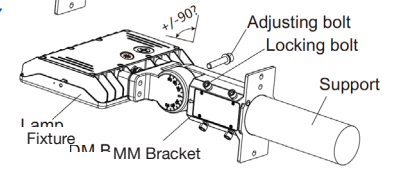

Fig. 28
2. Lock the 4 bolts on the slip fitter. Connect power supply wires within access cover or pole. Fasten the locking bolts between the slip fitter and the pole (Fig. 28).
3. Loosen the adjusting bolt and adjust the fixture angle as desired. Tighten the adjusting bolts. **Note:** Adjustable angle is 0-90° (Fig. 28).